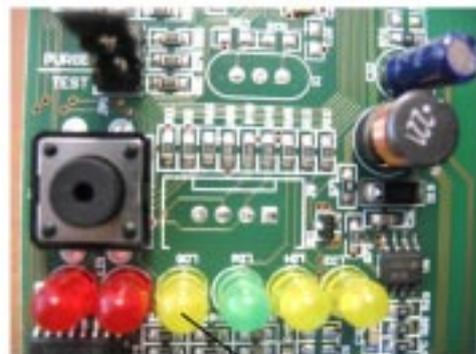

FIG. 7
**NOTE.** In the event the gear motor will tend to rotate in the wrong direction (counter-clockwise) or not rotating at all the unit will stop immediately with the glowing of the **3RD WARNING YELLOW LED** on account of the intervention of the **Electromagnetic Safety Device** - based on Hall Effect principle. After having diagnosed and eliminated the source of the failure, to restart the unit it is necessary to press the **RE-SET** push button or switch OFF and ON the power line main disconnect switch (Fig. 7). The **RED LED** will start blinking and after 3 minutes the ice maker will resume its total operations by running first the gear motor and then the compressor.